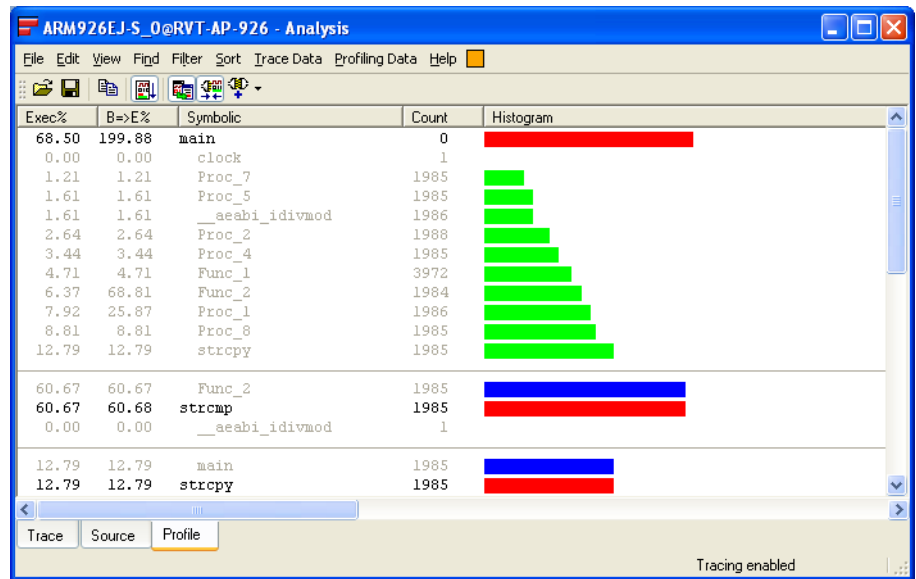

Figure 10-89 Call-graph data displayed in the Profile tab
- The Profile view displays the parents and children of each function. Figure 10-89 shows an example: